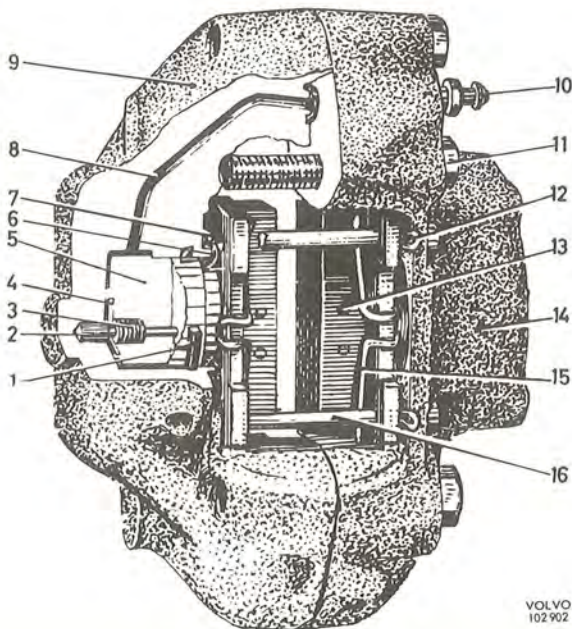
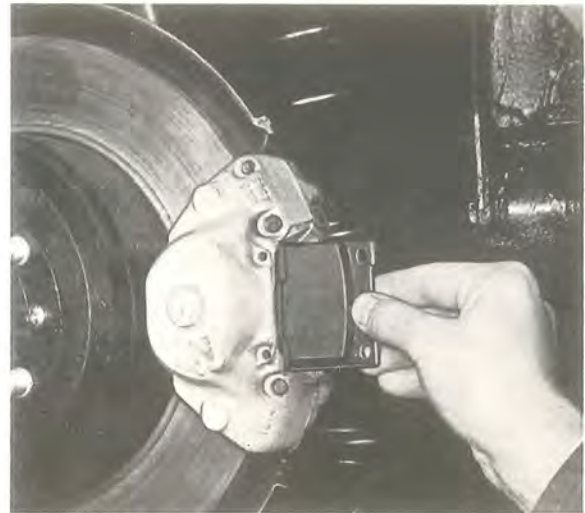

Fig. 5-10. Rear brake caliper
Fig. 5-18. Fitting the brake pads
The rear wheel brake caliper is mounted to the rear axle casing with the help of a retainer. It houses the wheel unit cylinders and brake pads. It consists of a housing divided in two halves (9 and 14, Fig. 5-10) bolted together and located on either side of the brake disc. Each half contains a piston and a cylinder linked by means of a channel in the housing.
(due to the axial play of the drive shafts when driving round bends or on rough ground). The A.S.B. device prevents a reduction in the pedal travel (that is, the distance from the pedal position at full brake application to the floor plate). The A.S.B. device consists of the following (see Fig. 5-10). A spring (3), a washer (4) which holds the spring securely on the piston, also
3. Remove the hairpin-shaped retaining clips for the guide pins, see Fig. 5-10. Pull out one of the retaining pins while keeping the damping springs in position. Remove the springs and then the other retaining pin. Pull out the pads, see Fig. 5-18.
6. Fit the new pads according to Fig. 5-18, with the recess in the lining facing downwards. Fit one of the retaining pins in position and install the damping springs and the other retaining pin. Fix the pins with retaining clips. Check that the pads are movable.
1. Remove the hairpin-shaped retaining clips for the retaining pins. Pull out one of the retaining pins while keeping the damping springs in position. Remove the springs and then the other retaining pin. Pull out the pads, see Fig. 5-18.